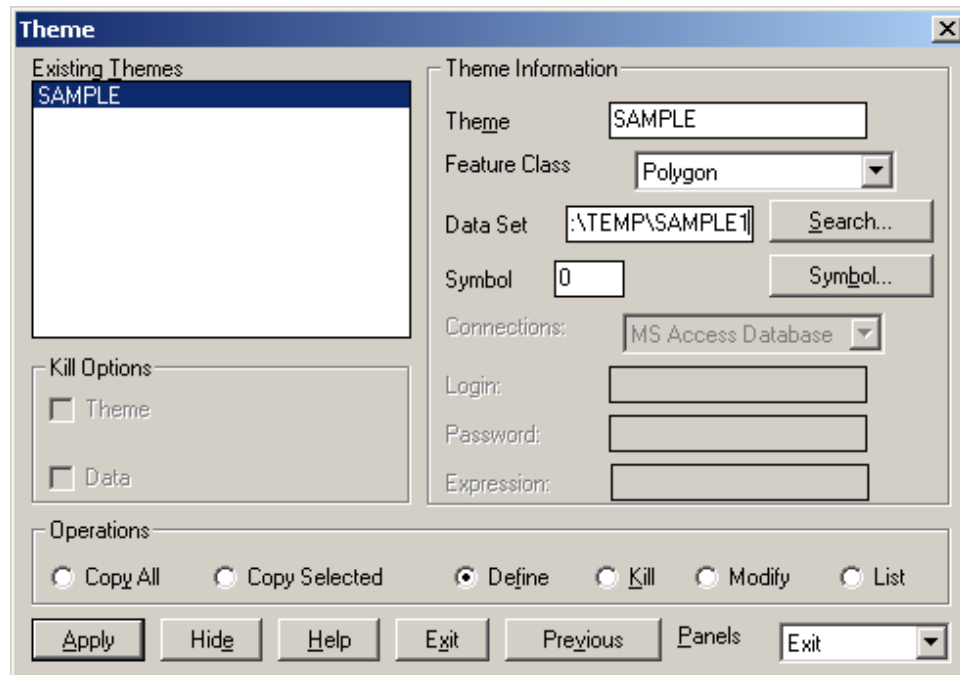

Figure 2
- (1) Open the Sample_arcad.dwg file in ArcCAD®
- (2) Type (**load“arcad”**) at the command prompt to reload the ArcCAD® menus after opening the AutoCAD® file.
- (3) From the pull down menu select THEME, DD THEME
- (4) In the THEME dialog box (figure 2) under THEME INFORMATION, type in the name of the Coverage that is to be created using only alphanumeric characters. It is useful to number the Coverage’s names as sample1, sample2, since the Coverage creation process usually takes several attempts.
- (5) Under FEATURE CLASS select POLYGON
- (6) The DATA SET is the location where the Coverage is to be created. In order to mitigate errors, a temporary folder should be created to store the Coverage. It is important that the last folder name match that of the theme name (Ex. THEME = sample1, DATA SET = C:\TEMP\SAMPLE1). **No spaces may be used when naming folders.**
- (7) Click APPLY and the THEME will appear in the EXISTING THEMES window.
- (8) Hit EXIT to close the dialog box.